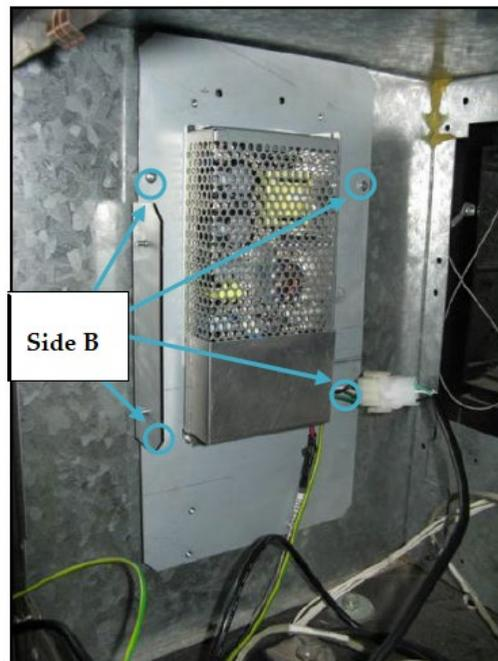

Figure 8
- 8) Identify the retrofit power supply assembly without the Invenco Link installed. It should be approximately located towards the front left of the B side of the dispenser. See Figure 8 below.